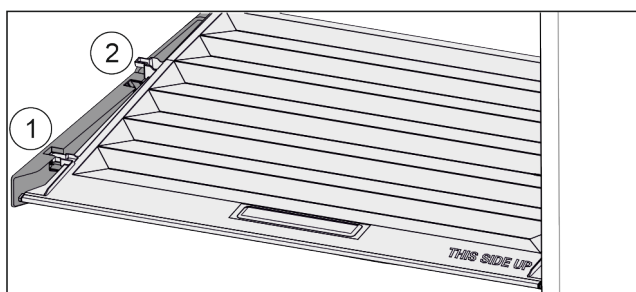

Fig. 75
- ▶ Pull the lid up at the front in the retaining parts to the opening Fig. 75 (1).
- ▶ Lift from the back and pull it up and out Fig. 75 (2).